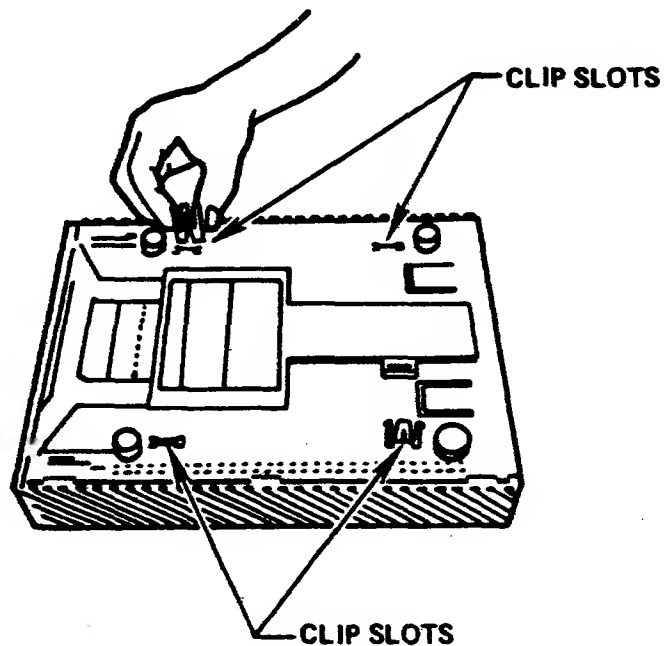

Figure 2-18. Bottom View of Floppy Disk Drive
1. Carefully turn the floppy disk drive over and insert the tops of the M-shaped clips into the bottom slots of the floppy disk drive, as shown in Figure 2-18.